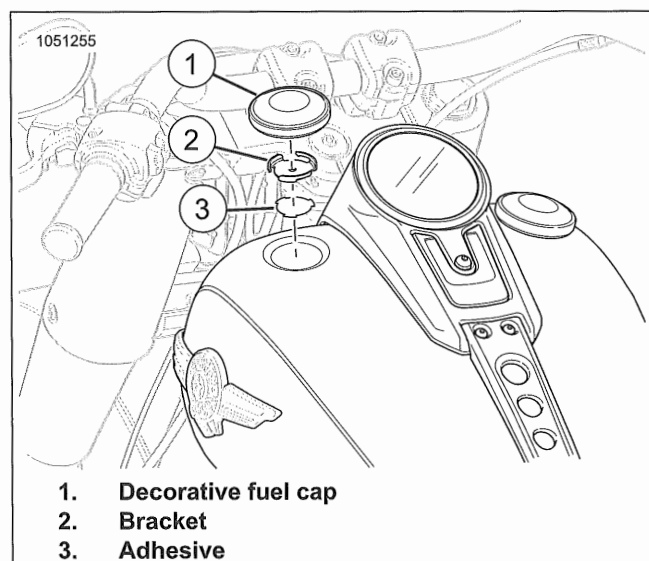
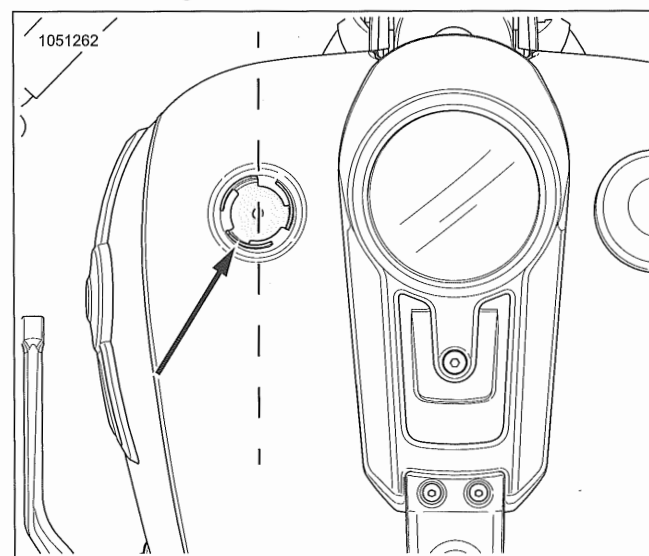

Figure 6-9. Decorative Fuel Cap
Figure 6-10. Bracket Orientation
1. See Figure 6-9. Remove decorative fuel cap from mounting bracket.
- a. Press down and turn decorative fuel cap (1) counterclockwise.
- b. Remove decorative fuel cap from mounting bracket (3).
2. See Figure 6-10. Mark location of mounting bracket with masking tape.
1. **If reusing mounting bracket:** See Figure 6-9. Apply adhesive (3) to back of mounting bracket (2).
2. See Figure 6-10. Test fit mounting bracket to ensure proper orientation.
4. See Figure 6-9. Install decorative fuel cap (1) to mounting bracket.